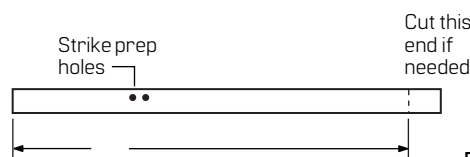

Figure 9 Cutting mullion tube
- Measure mullion tube and compare measurement to calculated 'L'. If tube needs to be cut, mark cut line and extend it around all faces of tube. If tube is already prepared for strikes, be sure to make marks at top end, farthest from the strike holes. See **Figure 9**.